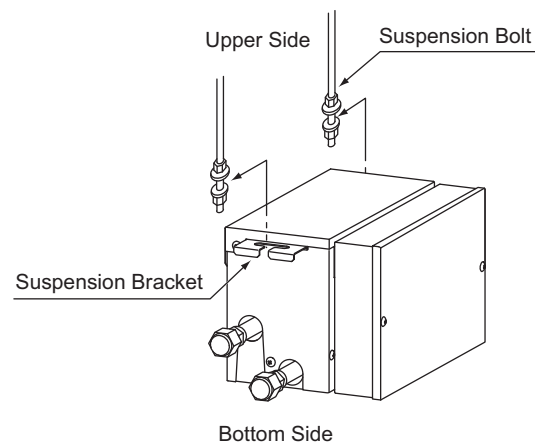

Figure 4.5 Hanging Method
(2) Hanging the Change-Over Box
- (b) Insert the suspension bolt into the groove part of the suspension bracket as shown in Fig 4.5. Ensure that the washers are correctly affixed to the suspension bracket.